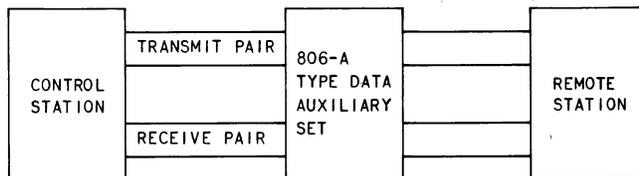

Fig. 1—Typical DAS 806A-Type—Installation
1.04 This DAS is installed on customer premises on the line side of the station equipment (Fig. 1). It can be controlled locally by depressing a pushbutton-indicator, or remotely with a control signal from the serving test center (STC). In the local operate mode, the station lines are looped-back and the facility lines are terminated. In the remote operate mode, the facility lines are looped-back and the station lines are either looped-back (option R) or terminated (option S).